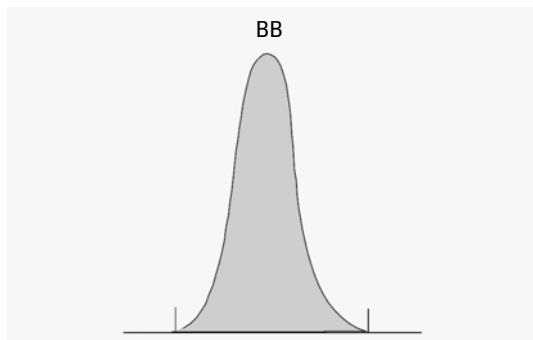

Figure 8 Area measurement for Baseline-to-Baseline Peaks
- for baseline-to-baseline (BB) peaks, the area above the baseline between the peak start and peak end, as in Figure 8 on page 29,